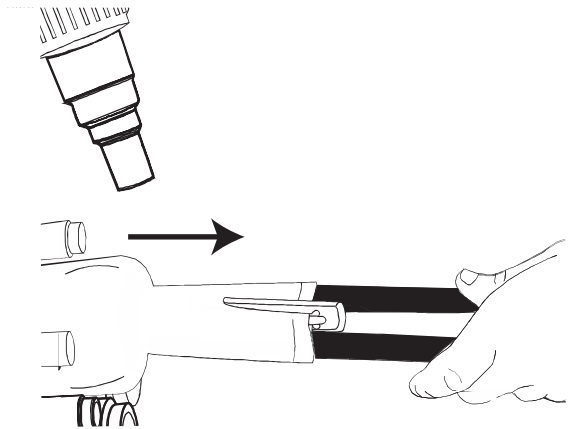

Figure 12
Step 8: Beginning at the port, gradually move a heat gun down the tube (Figure 12). Allow this portion of the tube to cool before shrinking the rest of the tube onto the cable.